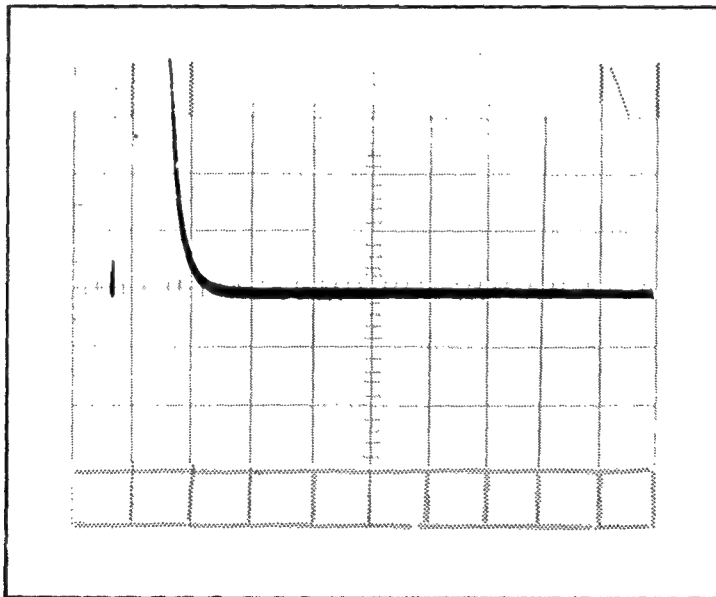

Figure 5.3. Pole Zero Adjustment, UNIPOLAR OUTPUT (0.1V, 20 μ s/div.)
2. Observe the UNIPOLAR OUTPUT on the scope and adjust the P/Z control so that the tail of the Gaussian pulse returns to the baseline as fast as possible with NO under or overshoot, as in Figure 5.3.